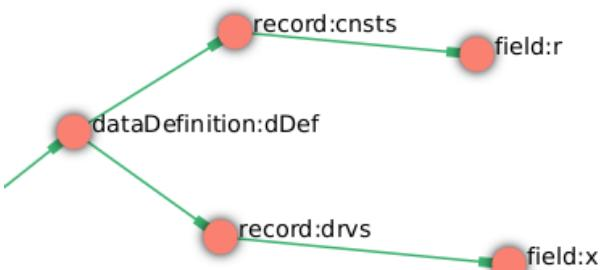

Figure 27. Defining constant r and driver x within the data definition sub-tree.
4. Create a `field` node as child of `record:drv`s, name it '`x`' and again set the type to `Double` (Figure 27).